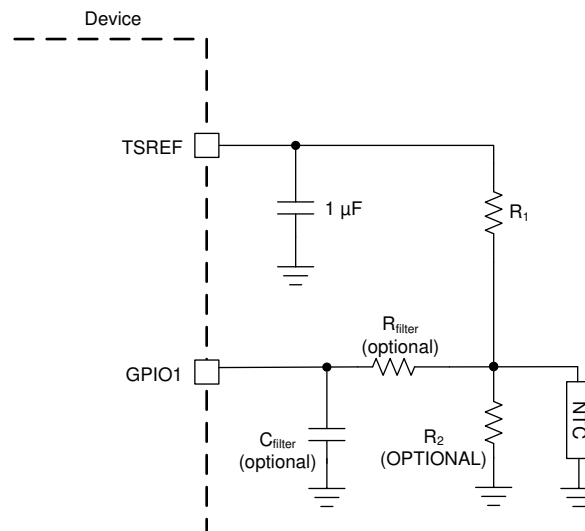

Figure 9-5. Thermistor Connection
Figure 9-5 shows the thermistor circuit when GPIO is enabled for thermistor measurements. MCU ensures TSREF is enabled by setting *CONTROL2[TSREF_EN]* = 1 and settled before taking the measurement value.
- R1 is the pull-up resistor as shown in Figure 9-5 with the assumption the R2 is not used